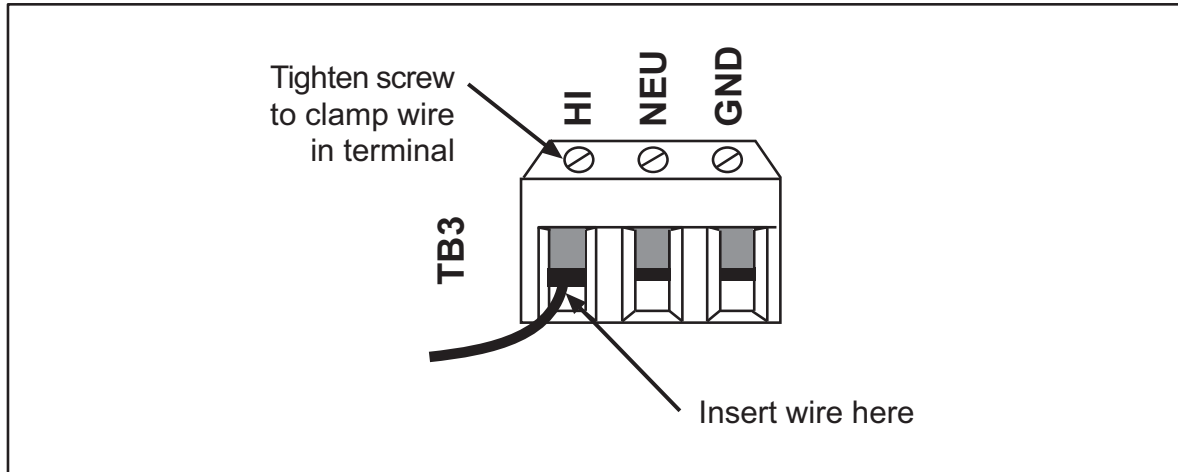

Figure 2-5. AC Power Connections (TB3 on the DSI 2 PC Board)
4. Connect the HI (black) and NEUtral (white) wires to TB3 as shown in Figure 2-5, page 2-8. To connect the wires, do the following: